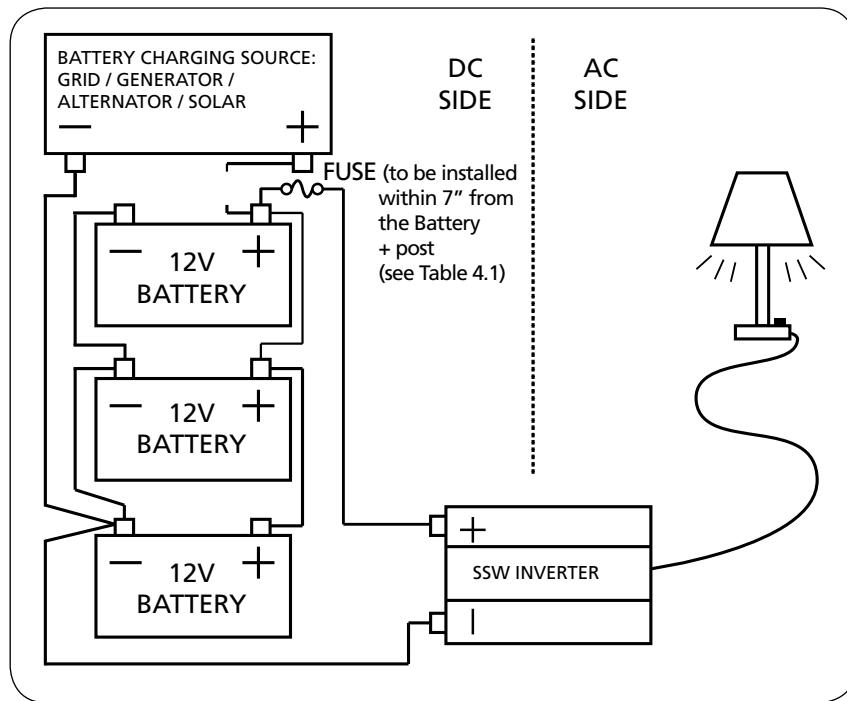

Fig 4.2 Connecting to a 12V Battery Source
The inverter will provide you nominal 115 VAC when powered by a 12 VDC source such as is found in a vehicle or multiple battery configurations as shown in Fig 4.2. This manual does not describe all of the possible types of **battery configurations, battery charging configurations and battery isolation configurations**.
For normal operation of the inverter, the DC power source must provide  $>11.0 \pm 0.3V$  and  $< 15.3 \pm 0.3V$  and the required current. This DC power source must be a well-regulated DC power supply or alternator and deep cycle battery system typically found in vehicles and marine crafts. The DC power source may also be two or more 12 volt batteries connected in parallel. On larger applications, the power source may be several batteries connected in parallel as shown in Fig 4.2.
It is mandatory to install appropriate size of external DC Fuse as close to the Battery Positive Post as possible, preferably within 7 inches to protect against fire hazard due to short circuit along the battery cable run (See Fig 4.2). A battery is an unlimited current source that can supply thousands of Amperes of current under short circuit conditions. If a short circuit occurs in the cable run at a point between the battery and the inverter, the section of the cable from the battery to the point of short circuit will be fed with thousands of Amperes of current, the section of the cable will overheat / melt and is likely to cause fire. It is, therefore, recommended that the fuse / fuse assembly should have Ampere Interrupting Capacity (AIC) of at least 10,000 A. Class-T Fuse / Fuse Holder made by various manufacturers or Marine Rated Battery Fuse (MRBF) made by Eaton Bussmann and distributed by Samlex America / Blue Sea Systems may be considered.
5. Install a fuse holder close to the Positive (+) terminal of the battery (or other DC source), preferably within 7" of the terminal (see Fig 4.2). When Marine Rated Battery Fuse (MRBF) and associated Fuse Block recommended at column 5 of Table 4.1 are used, the fuse will be installed on top of the battery Positive post/stud.